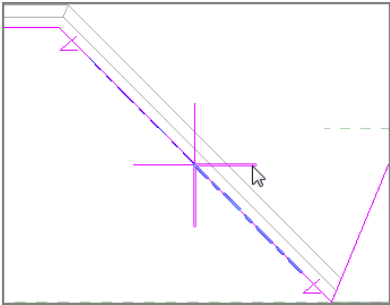

FIGURE 7.62 : Adding a second slope arrow
4. Add a second slope arrow coming from the opposite side of the ridge-line, as shown in Figure 7.62.